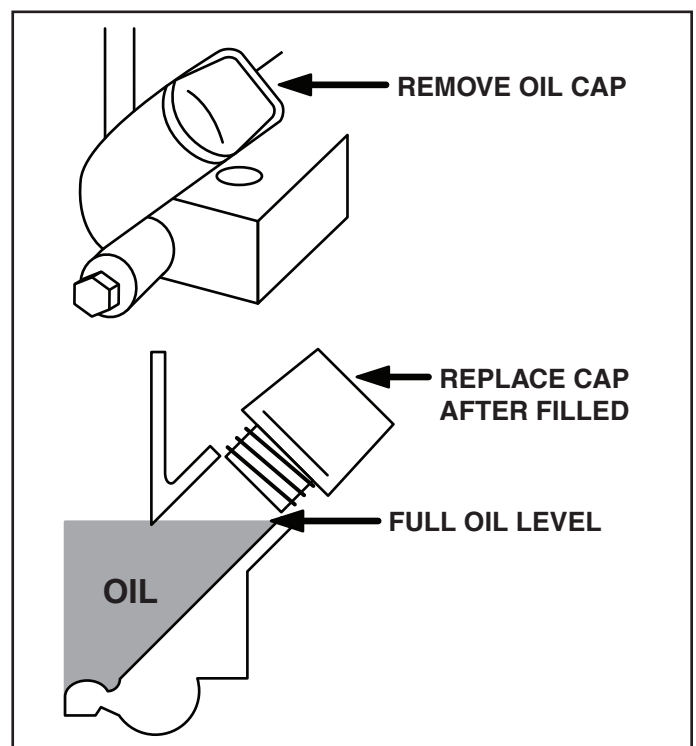

FIGURE 11
- Maintain engine oil as instructed in figure 11 below.